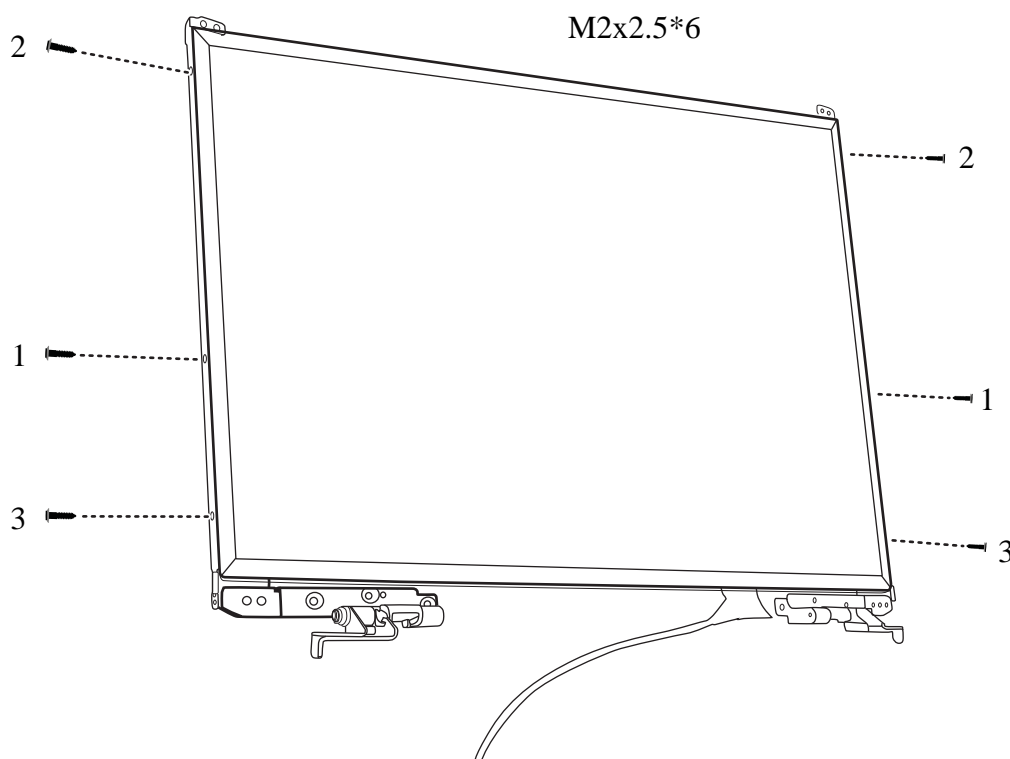

Figure 4.46 Installing the LCD Hinge Assembly
4. Seat the LCD hinge assembly in the correct position beside the LCD panel and secure it with six M2x2.5 screws according to the sequence indicated in Figure 4.46.